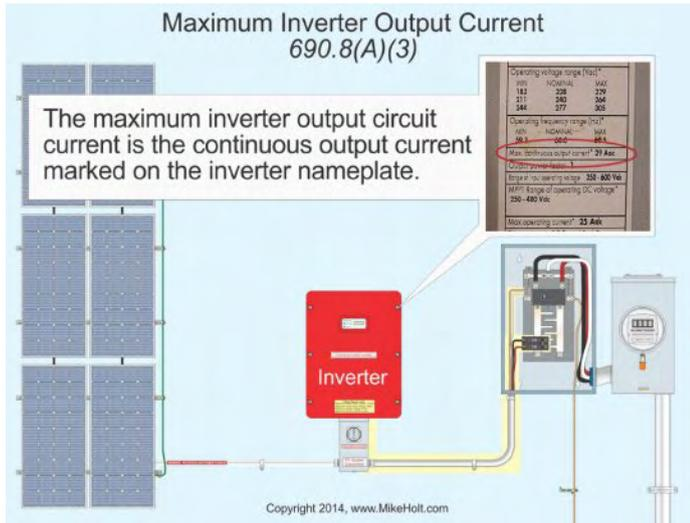

Figure 690–38
**(3) Maximum Inverter Output Circuit Current.** The maximum inverter output current is equal to the continuous output current marked on the inverter nameplate or installation manual. Figure 690–38